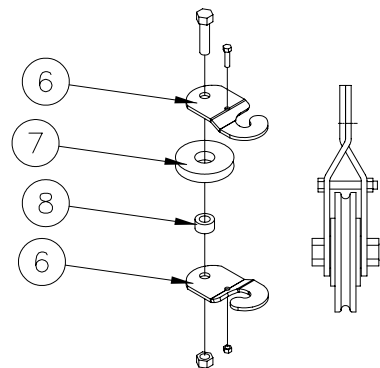

FIG. 3
8. Refer to Fig. 3 and assemble the two cable pulleys (Items 7) between the pulley clevis plates (Items 6). There should be a pulley bushing (Item 8) inserted into the bore of each pulley (Item 7). Use a 1/2" x 2" long bolt and lock nut to secure each pulley.